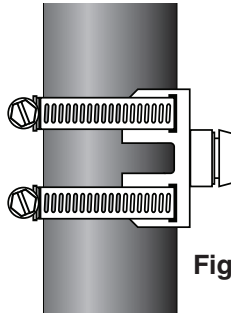

Figure 1
STEP 1 Attach the pipe mounting bracket to near boiler piping. When selecting location, keep control's visibility and accessibility in mind. Tighten two clamp screws (Figure 1).